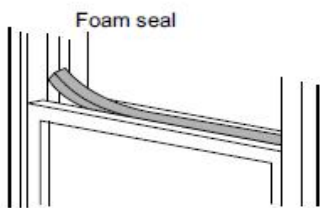

Fig.13
5. Cut the foam seal to the length and seal the open gap between the top window sash and outer window sash. Shown in Fig.13.